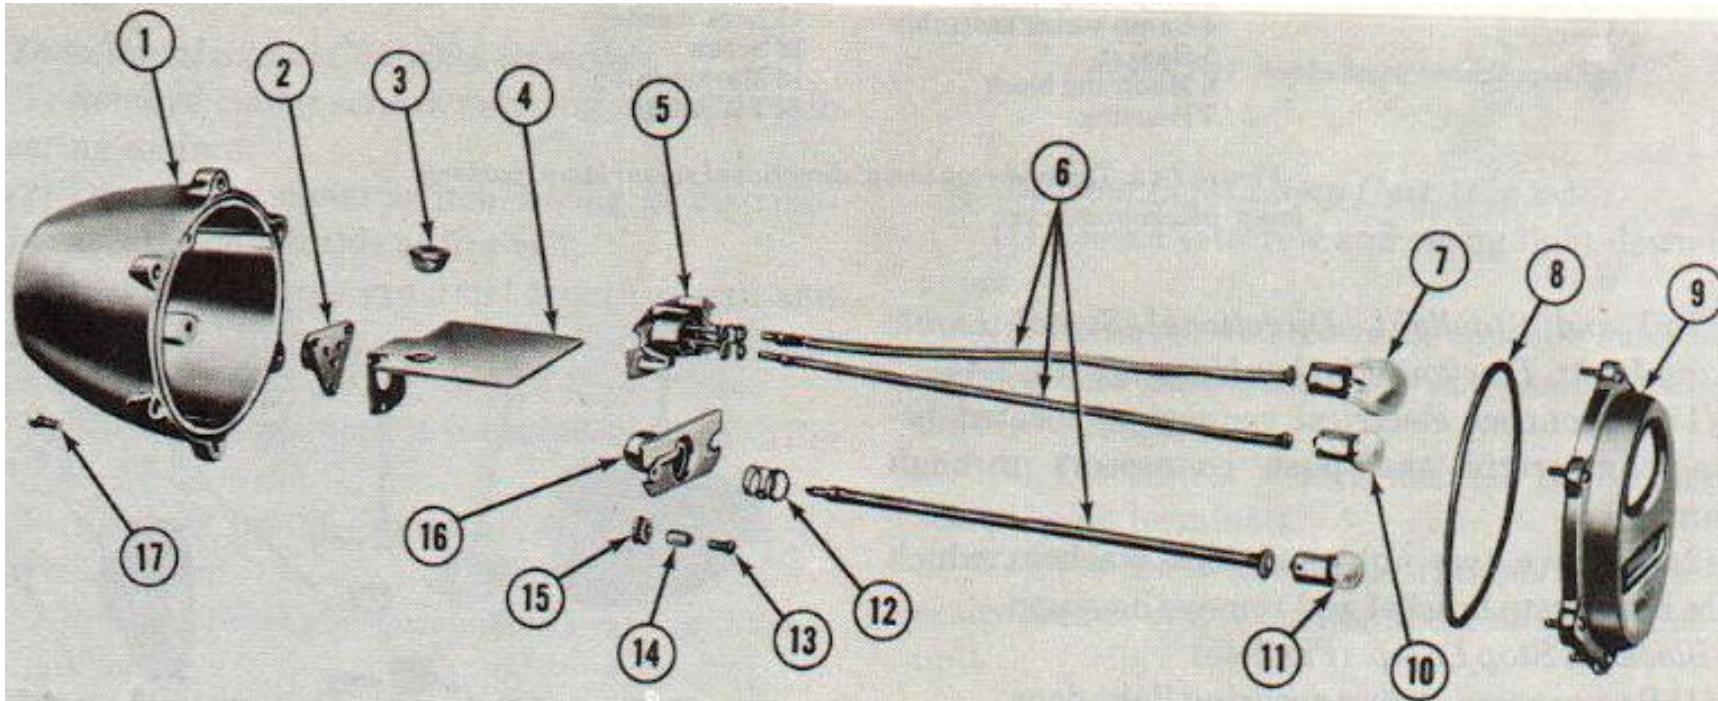

Figure 2-43. Blackout marker, parking and signal light exploded view.
(1) Remove 6 screws which secure door and lens to housing and remove door, lens, and seal gasket.
(2) Turn lamps counter-clockwise and remove from sockets.
h. Blackout Marker, Parking Light and Turn Signal Housing. (Fig 2-43)
(1) Disconnect electrical connectors and rear of housing.
(2) Remove two bolts and washers which secure housing to radiator support panel and remove housing.